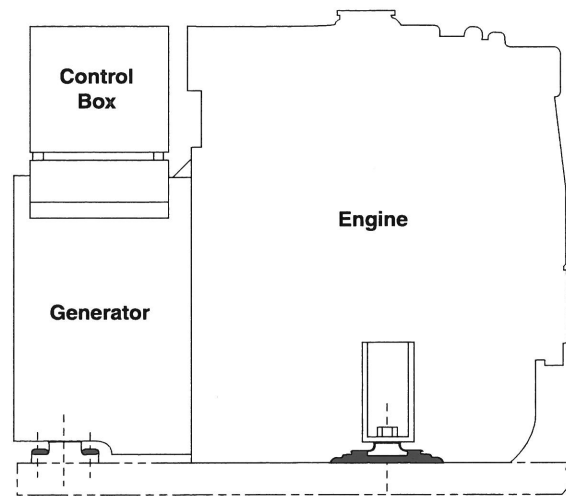

Figure 22: Composition.
1. A Generator Set includes the engine, the generator, and the control or “J” box (Figure 22).
### GENERATOR (Figure 22)